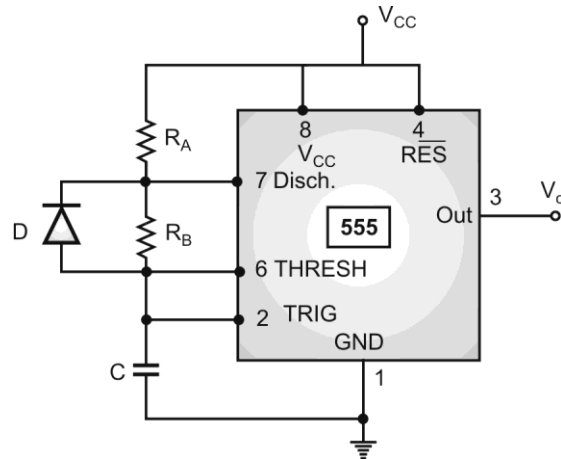

Fig. Ex. 5.2.1
Analyze the circuit given in Fig. Ex. 5.2.1. Draw the waveforms at output terminal V_o and across the capacitor C . Comment on the duty cycle of output waveform. Take diode D as an ideal diode and assume R_A is equal to R_B .
- Fig. Ex. 5.2.1 is astable multivibrator with 50% duty cycle. We know that for astable multivibrator % duty cycle is given by,